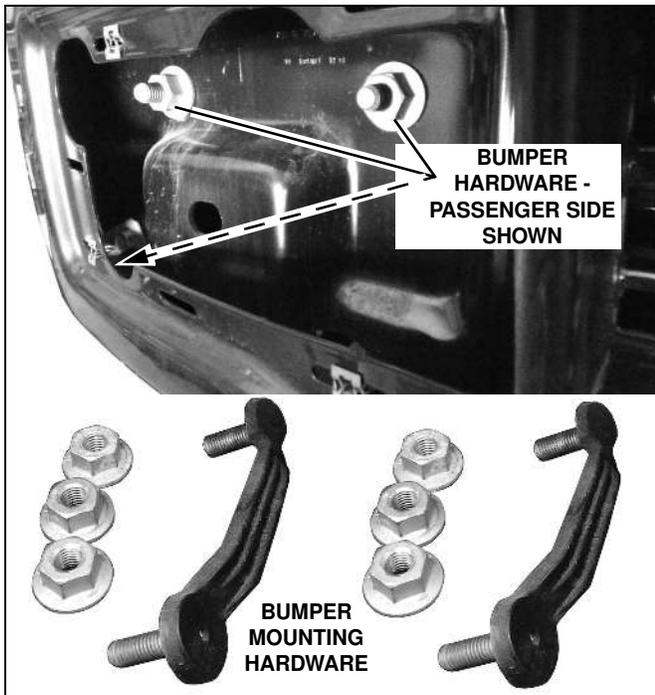

Figure 10
6. Disconnect the fog lamps, if equipped and any harnesses attached to the bumper. Remove the 3 nuts on each side, holding the bumper to the truck frame. Remove the bumper. (See Figure 10)